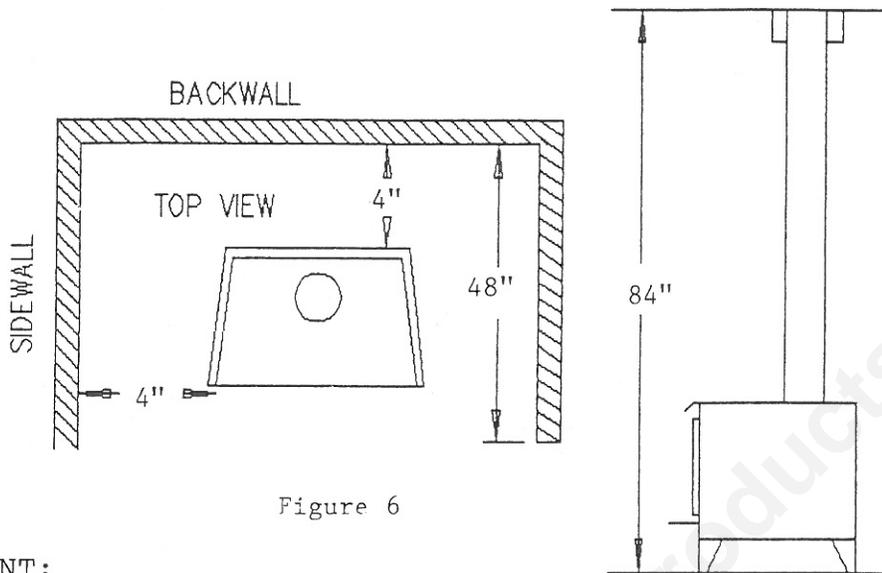

Figure 6
2. For clearances see figure 6.